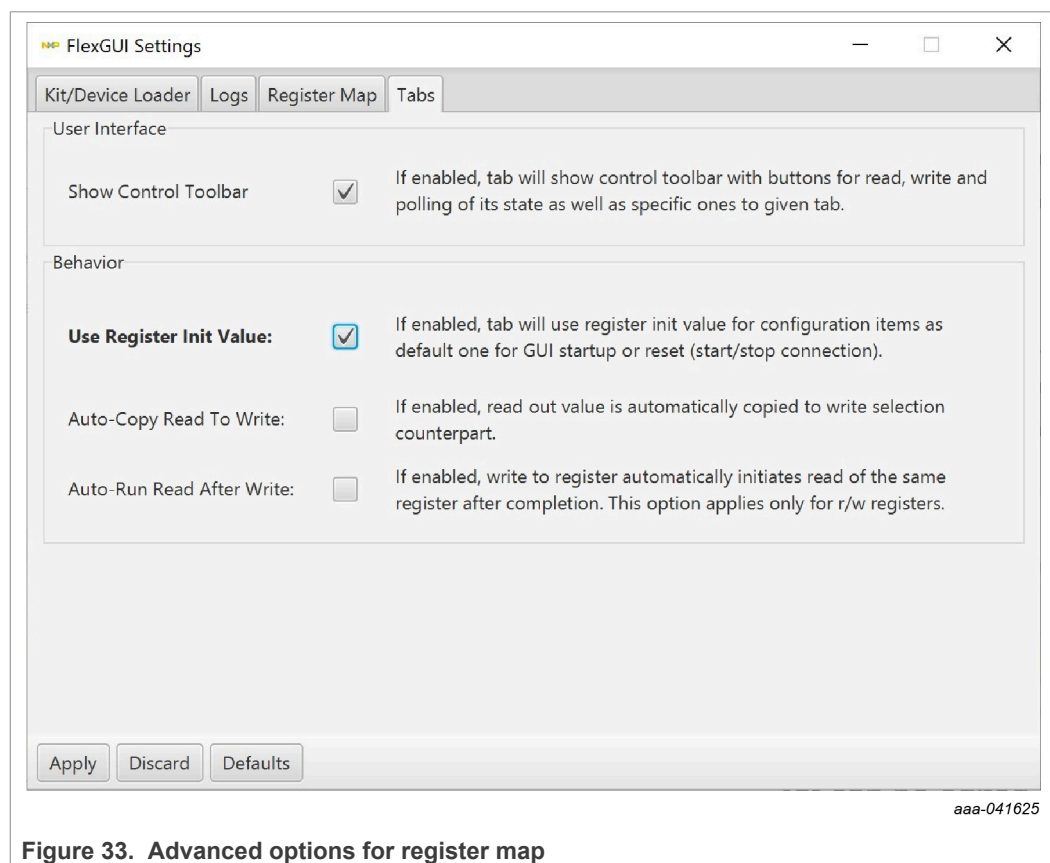

Figure 33. Advanced options for register map
The contents of the selected register, or register group, is displayed in the main window. Register data can be edited in the top row in preparation for writing to the register. When option **Use Register Init Value** is selected, the editor is initialized with the default values at start-up and reset (Figure 33). If this option is not selected, all bits will be 0 at start-up and reset.
- Clicking the **Reset** button undoes changes made to the 'write' row(s) since the most recently executed write action(s) on the associated register(s). If a register has not been previously written to, the selected rows are reinitialized (with the default values as selected via the **Use Register Init Value** checkbox; see Figure 33).